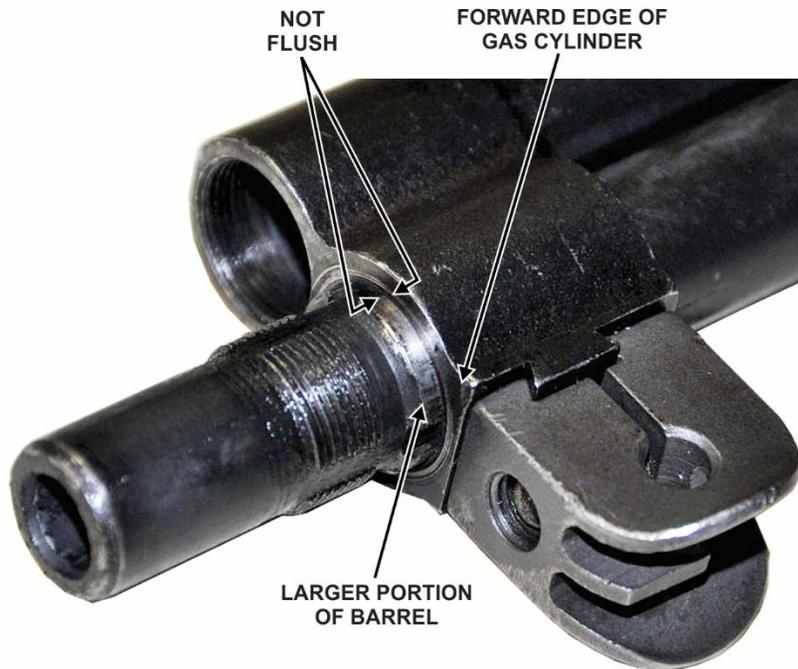

Figure 32. Gas cylinder positioned INCORRECTLY (too far rearward)
- 3) Push the gas cylinder down until the forward edge is flush with the larger diameter portion of the barrel (figs 32 and 33).